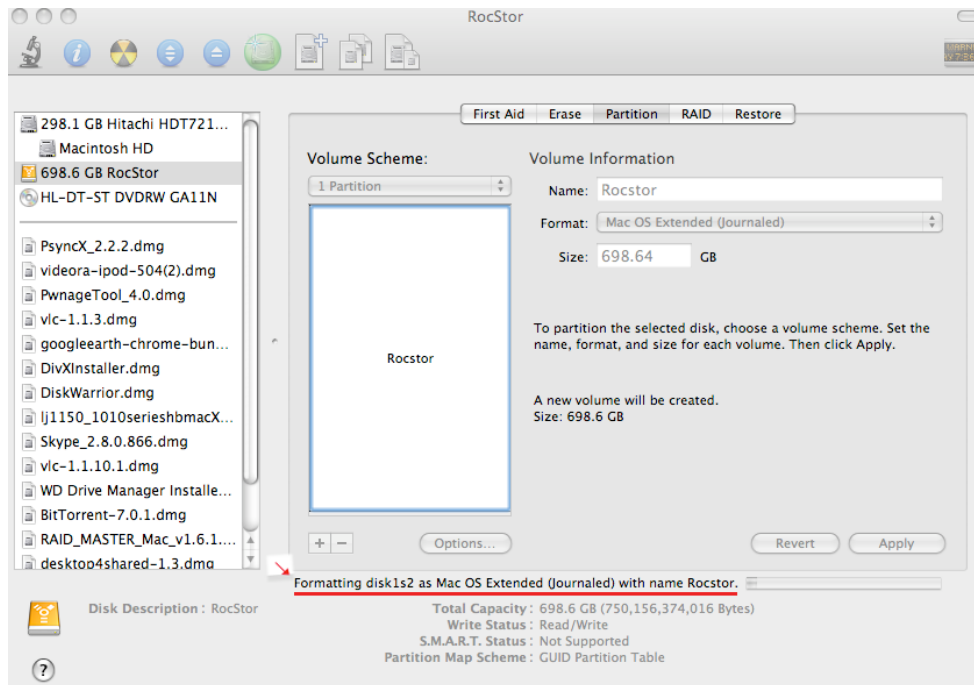
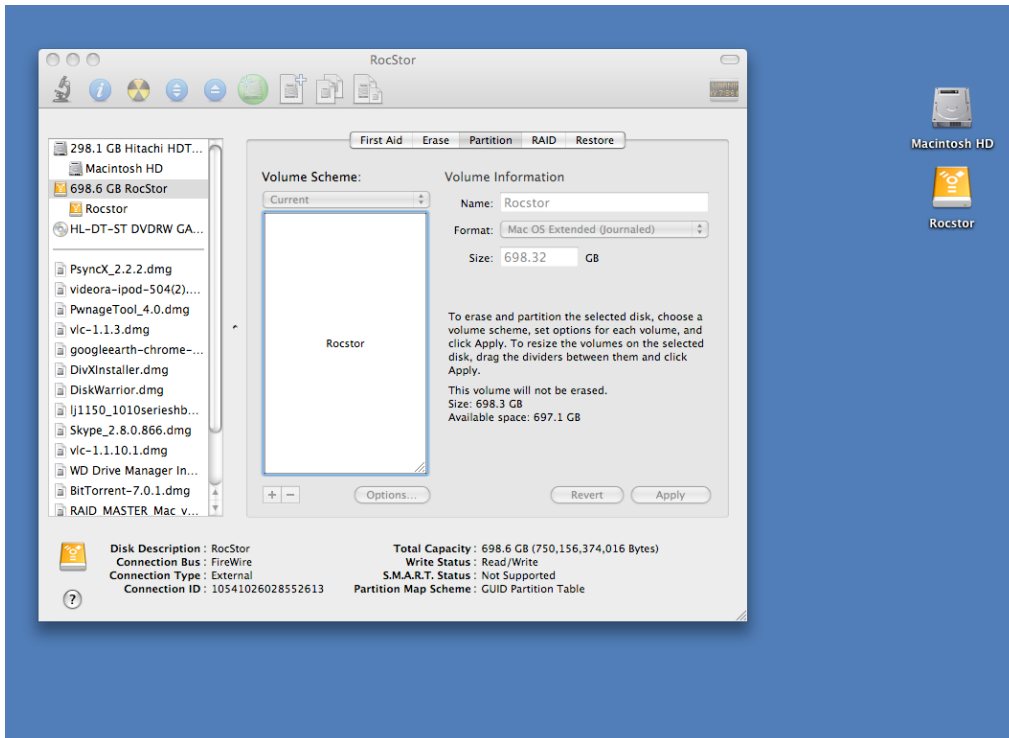

Figure 8.1
Figure 9.0
13. The drive will begin to format (figure 8.1) and upon completion; the same icon that first appeared on the Desktop will reappear with your designed name on the Desktop (figure 9.0)